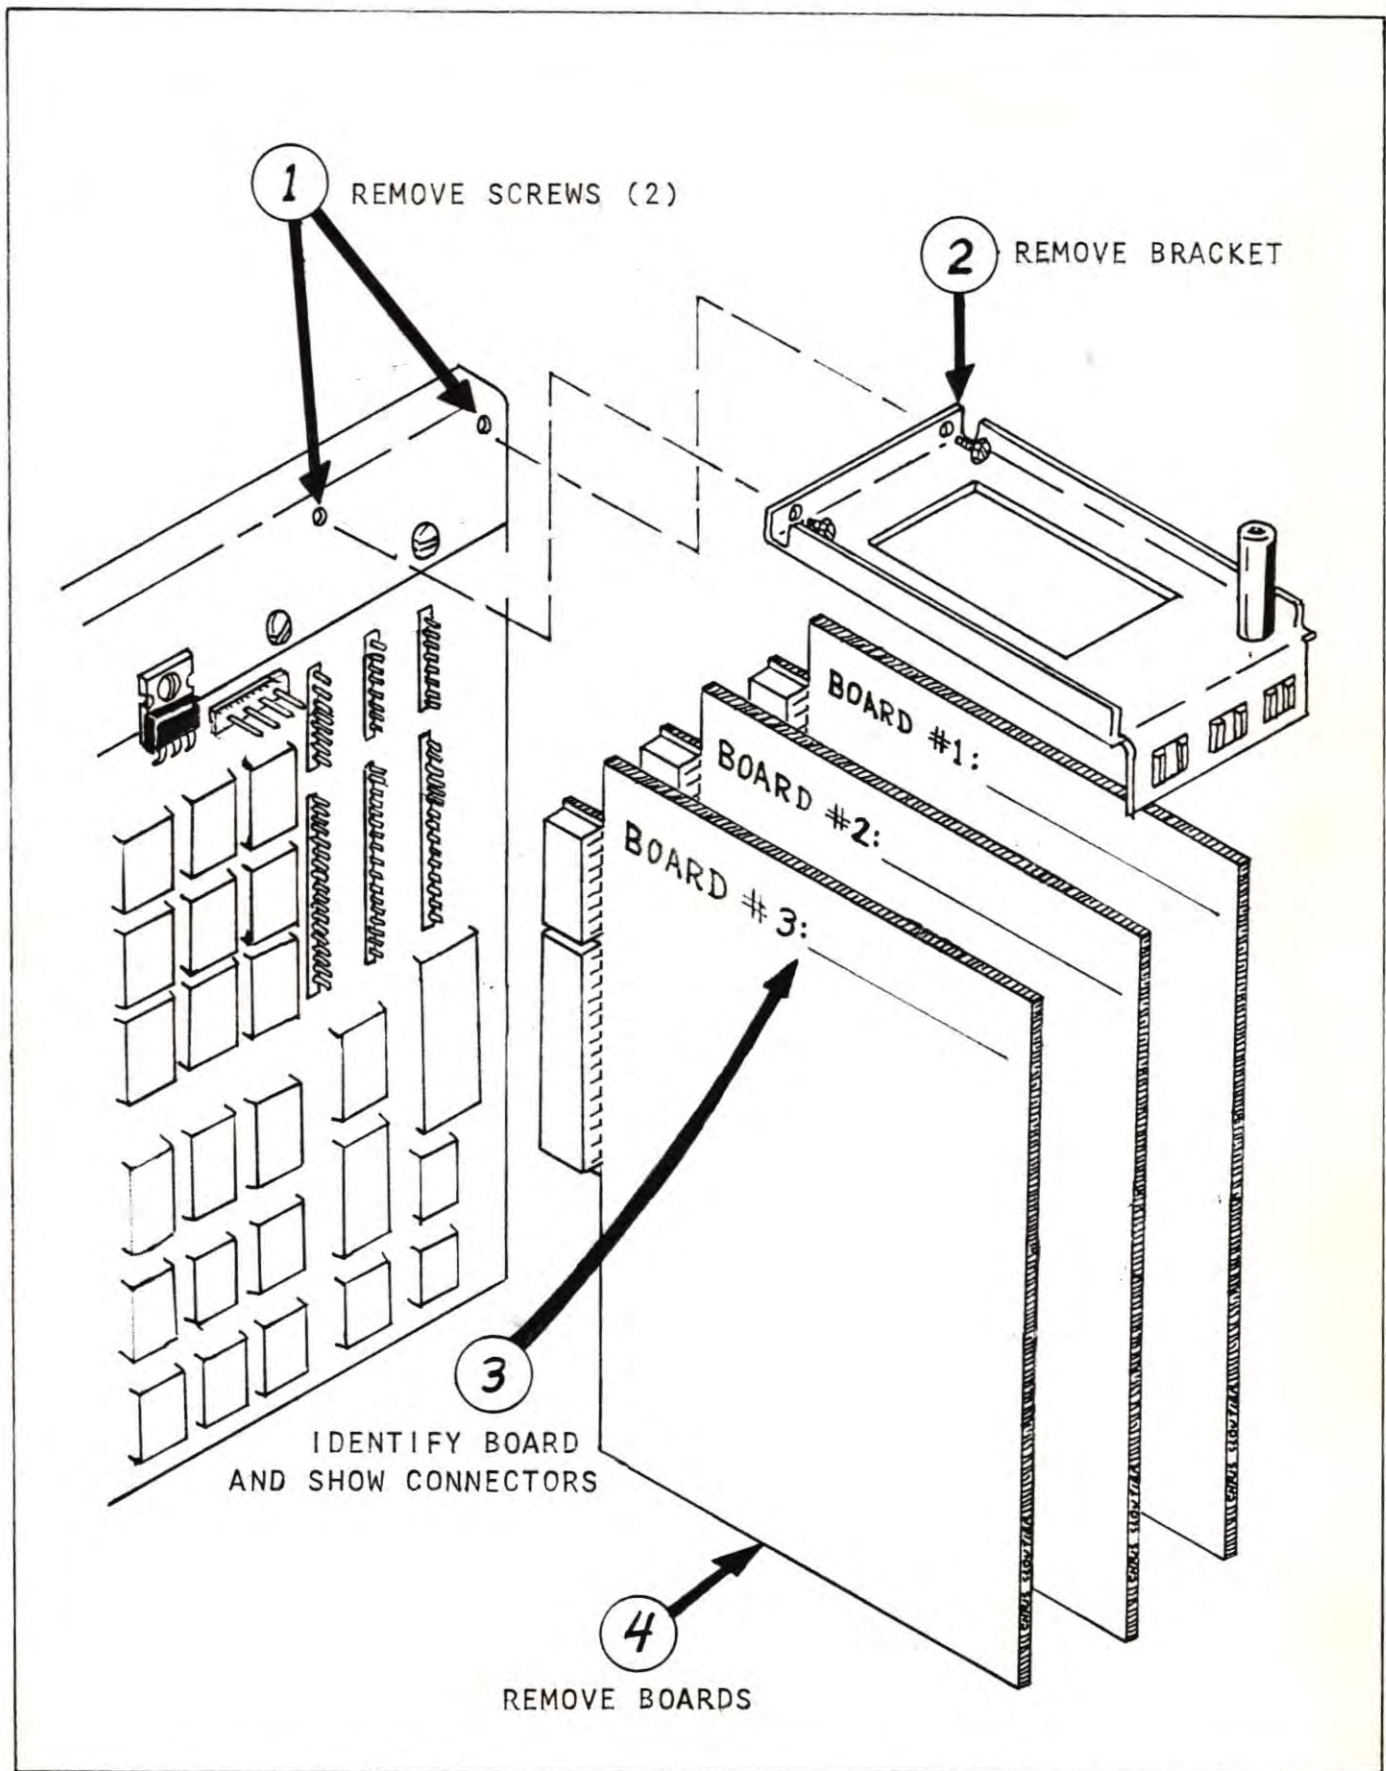

FIG. 1-3 ACCESSORY BOARDS
- () Remove the two screws holding the right-hand I/O board mounting bracket (see fig. 1-3). Be careful not to drop the screws inside the machine. Set the screws and bracket aside.
- () Use fig. 1-3 to sketch the accessory board in each I/O slot, and how its cable connections are made. In particular, note where each cable plugs in and the orientation of any colored wires or stripes ("blue stripe up" or "brown wire on top", etc.). Your sketch will be useful later to help re-install the boards correctly.
- () Unplug any board in I/O slot "3" (the leftmost slot). Be sure to record the cable connections in fig. 1-3.
- () If any I/O boards have a separate cable connection to the CPU board (such as the Heath H37 soft-sector 5-1/4" disk controller), carefully unplug the cable from the I/O board end. Be sure to note its position and orientation on fig. 1-3.
- () If any of the I/O boards have a cable that runs over the top of the CPU board, unplug it or move it aside. Note its position in fig. 1-3.